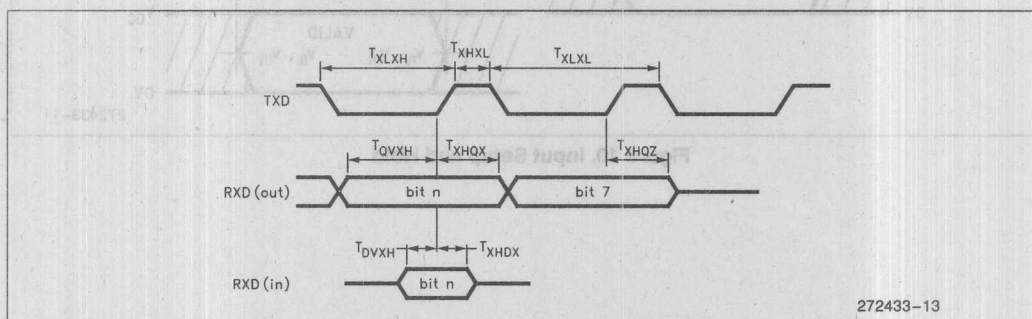

Figure 12. Serial Port Mode 0 Waveform
- See Figure 12 for waveforms.